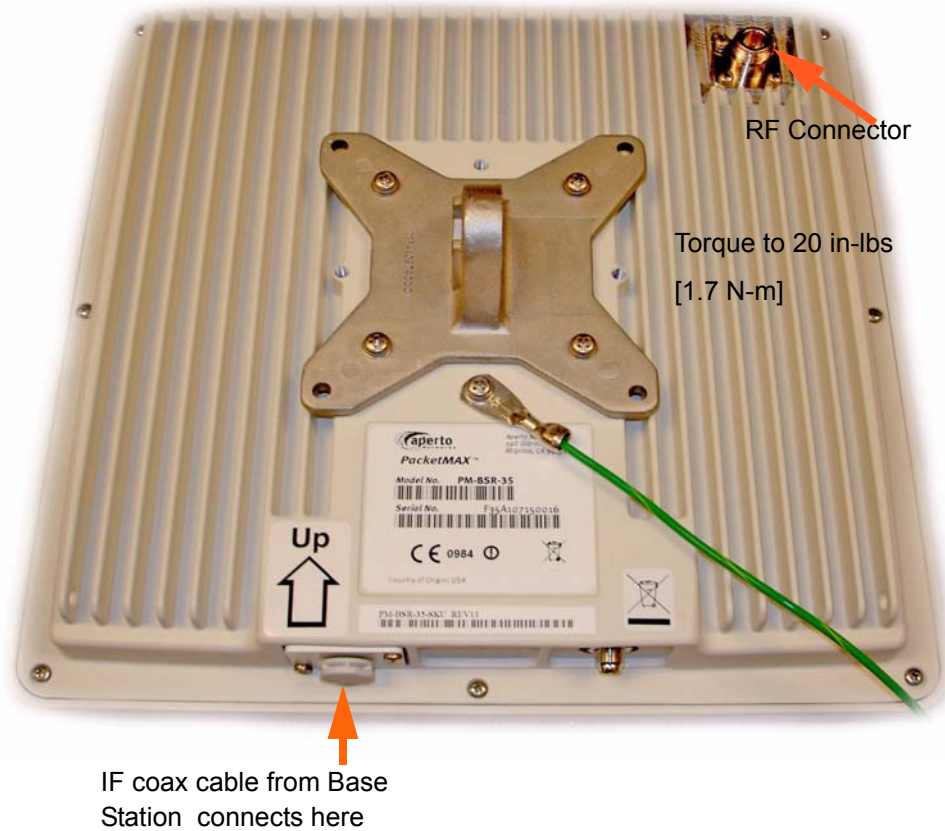

Figure 4-7 RF Cable connects BSR to the Antenna
- B. Connect one end of a short coax cable (LMR-600 is recommended) to the RF connector on the BS radio, as shown in Figure 4-7.